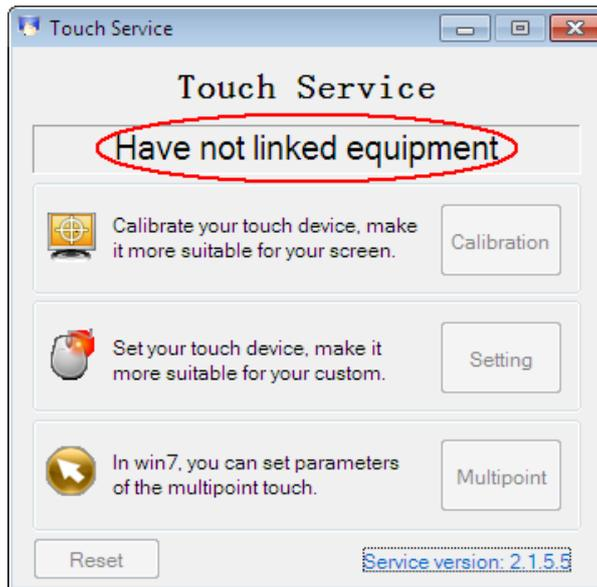

Figure 3-14
- 1) If start Touch Service without connecting the touch panel, there will be a notice of "Have not linked equipment" (Figure 3-14).